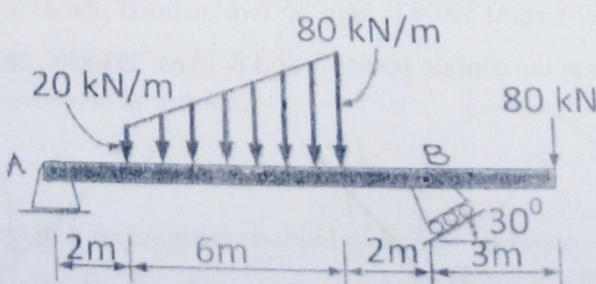

Fig 2.93
- 10) Find the support reactions at A and B for the beam shown in fig 2.93 (Ans: 157.03kN, 108kN, 314.07kN).